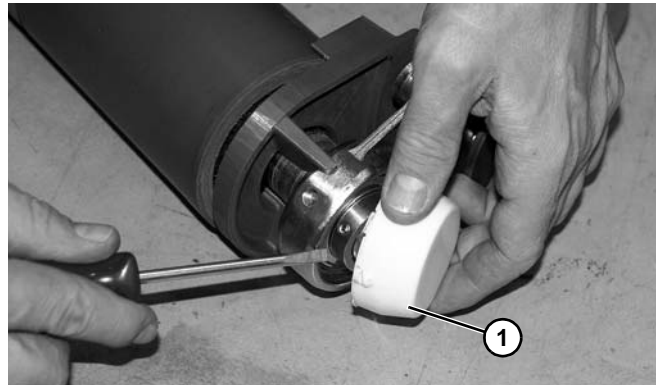

Figure 133
5. Remove the bearing cover (Figure 133, item 1). Repeat on opposite side.